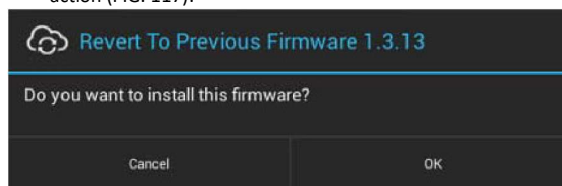

FIG. 117 System Prompt - Revert To Previous Firmware?
2. A System Message window is displayed that indicates the previous firmware version that will be installed, and prompting you to verify this action (FIG. 117):